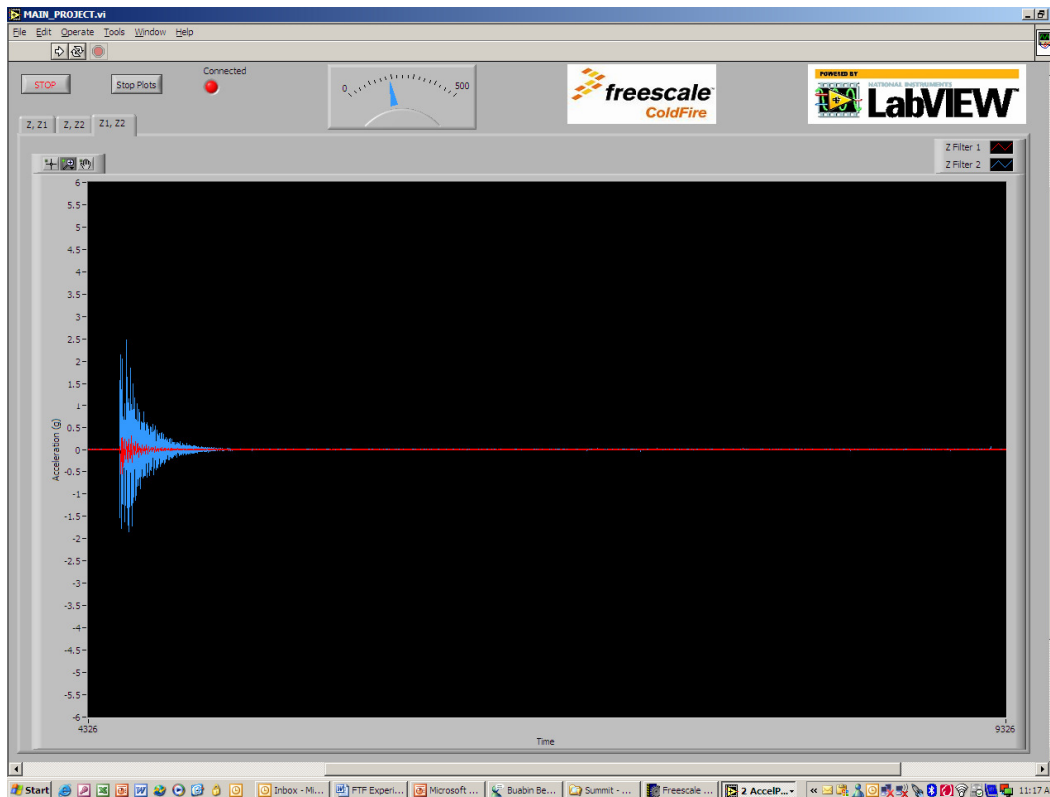

Figure 2c: High pass filtered signals with cut off frequency at 900 Hz and 350Hz
- h. The tab labeled “Z1, Z2” displays the both high pass filtered signals (Figure 2c).
- g. The tab labeled “Z1, Z2” displays the low pass filtered and the high pass filtered signals (Figure 2c).